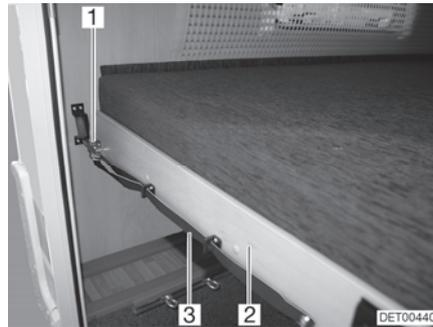

Fig. 78 Bunk bed (rear)
- Pull on the loop (Fig. 78,3) and release the latch (Fig. 78,1).
- Pull the slatted frame (Fig. 78,2) together with the mattress forward until it latches in place.